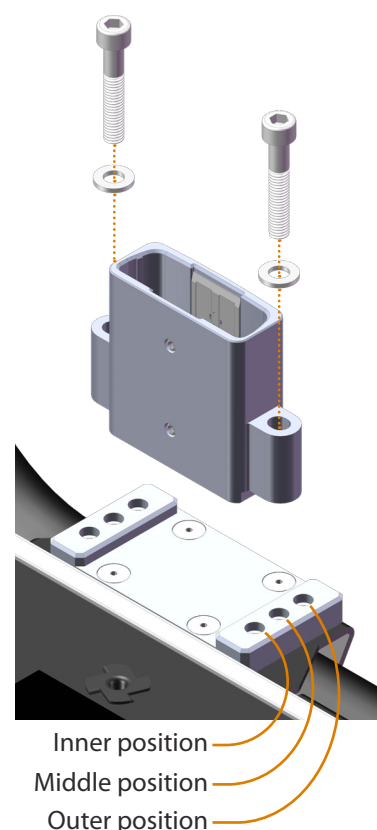

Figure 18. Armrest mount (left side)
HD Motion is width-adjustable in 3 positions. Seat width is determined by the position of the armrest mounts, see Figure 18. Table 1 show the nominal seat width for each model.
- Unscrew the two screws that secure the armrest mount (Figure 18).